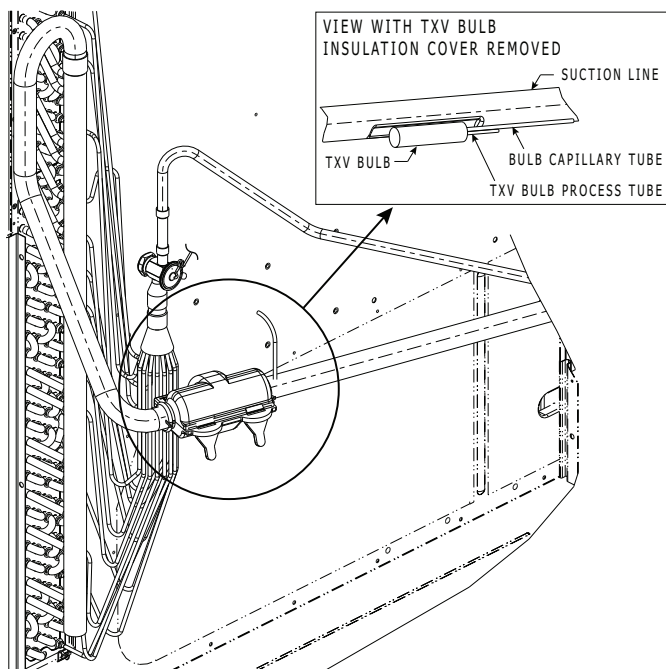

Fig. 23 — TXV Valve and Sensing Bulb Location
8. Attach TXV bulb in the same location where the original (in the sensing bulb indent) was when it was removed, using the supplied bulb clamps. See Fig. 23 on page 16.